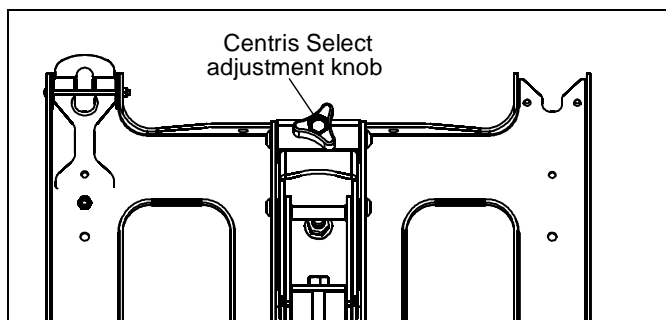

Figure 9
2. Adjust the Centris Select knob until desired vertical tilt tension is obtained. (See Figure 9)